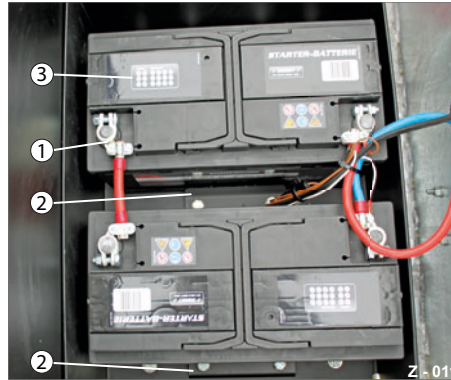

Abb. 15 Removing the batteries
- ▶ Release the terminal clamps (Abb. 15/1).
- ▶ Release the threaded connections of the holders (Abb. 15/2).
- ▶ Write the installation date of the new batteries on the label (Abb. 15/3).